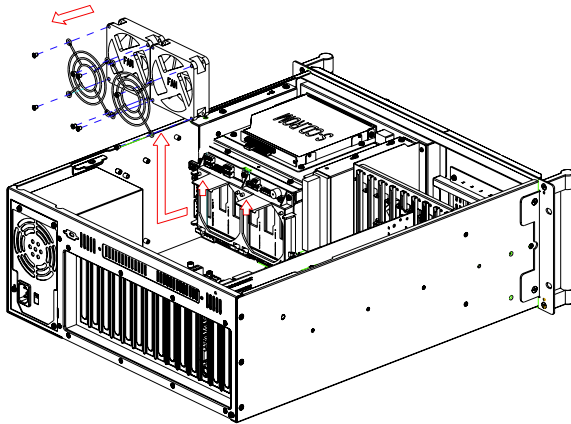

Figure 3.6: Replacing the fan behind the SATA HDD backplane
3. Unplug the fan power connector on the SATA HDD backplane. (see *Figure 3.6*)